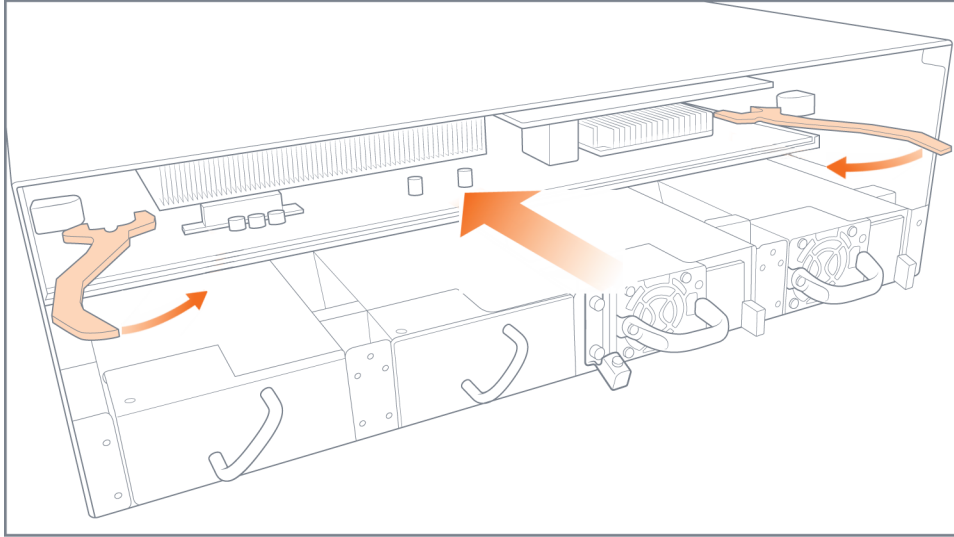

Figure 21 Control Card Ejector Handles
2. Swing both ejector handles inward, as shown in Figure 21 Control Card Ejector Handles.